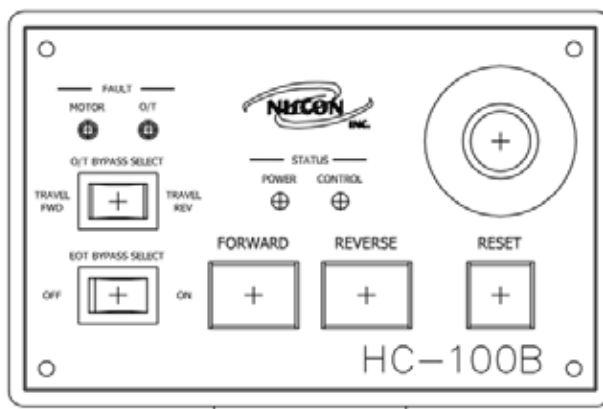

Figure 2: Face Plate of the Maintenance Control Pendant
4. To use the maintenance pendant, plug the maintenance pendant into the receptacle on the face of the drive module and make sure the hoist is supplied with three phase power. The controls on the face of the pendant will operate as follows. See Figure 2.